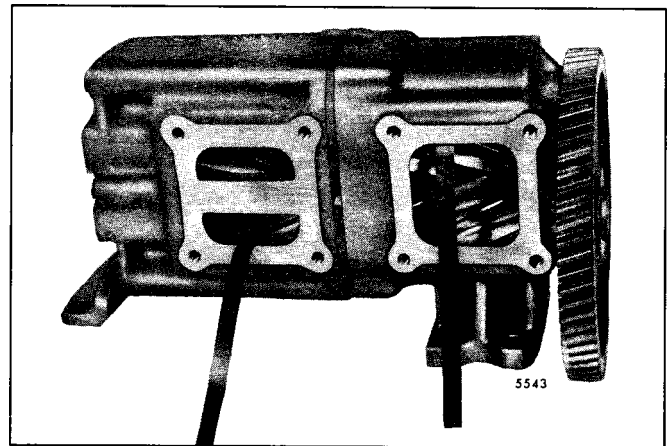

Fig. 9 - Checking Minimum Clearance Between Oil Pump Gear and Body
9. Install the scavenging pump body over the gears and shafts. Then, install four 3/8"—16 x 7 1/2" bolts in the lower four bolt holes to secure the scavenging pump body to the oil pump body. Before final tightening of the bolts, center the two pump bodies to provide equal clearance at all places between each gear and its pump body. The minimum clearance at any point between a gear and its pump body should be .003" (Fig. 9). Then, tighten the bolts to 30-35 lb—ft (41-47 N*m) torque.